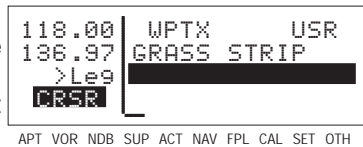

Figure 4-184
4. Press **ENT** to approve each line of remarks. The cursor will automatically move to the next line (see figure 4-184).